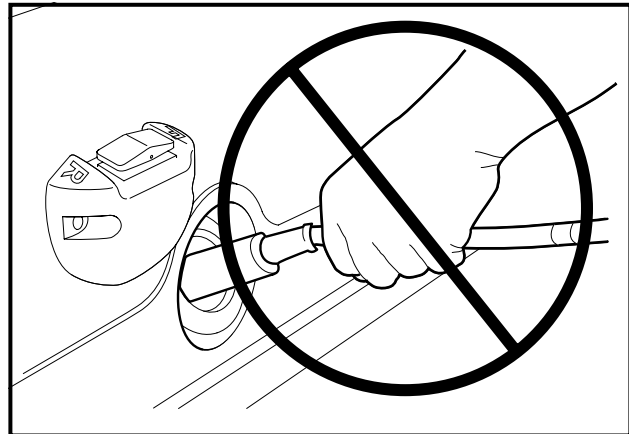

Figure 28 Incorrect Removal of Charger DC Plug
- Do not pull on the DC cord (Figure 28, Page 42). Do not twist, rock or bend the plug. To disconnect the charger plug from the vehicle receptacle, grasp the plug by the handle and pull the plug straight out of the receptacle.